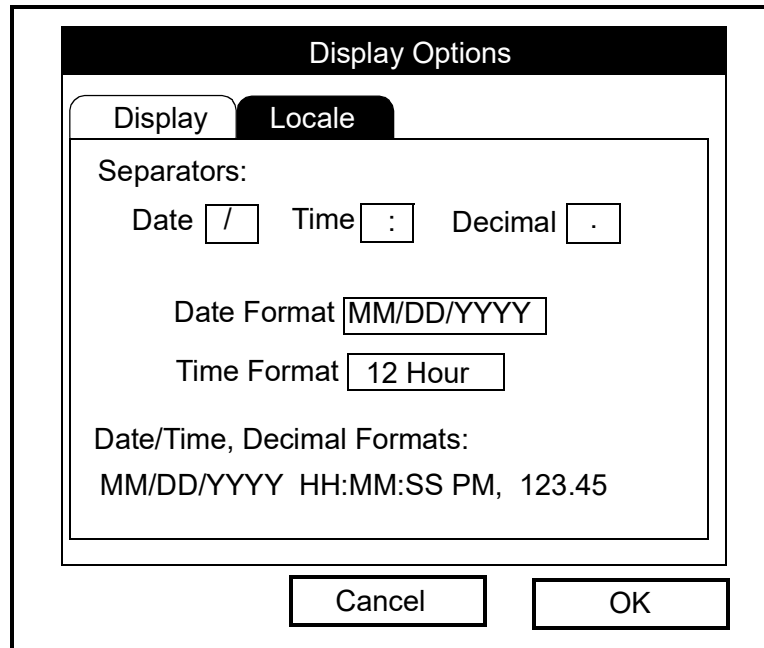

Figure 106: Format Tab in the Display Options Window
1. From the Meter menu, scroll to the Locale entry and press **[ENTER]**. The Display Options window opens on the Format tab, as shown in Figure 106 below. To step through each parameter, press the **[▼]** key.